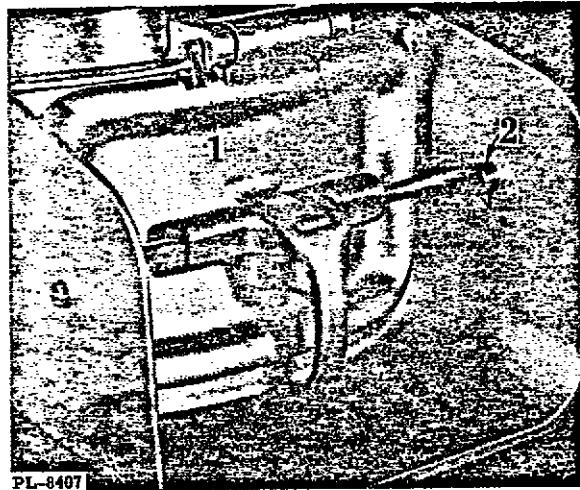

Fig. 4
B.2.1 Close and latch hopper door (1, Fig. 4).
B.2.3.1.1 Turn off the water. Open hopper door (1, Fig. 4), discharging potatoes into container provided by customer. After all potatoes are discharged, stop motor.
C.4 Hopper door (1, Fig. 4) should be unlatched when the peeler is not in use to prolong the life of the door seal.
NOTE: Setting the adjustable locking cams (2, Fig. 4) too tight will also shorten the lift of the door seal.